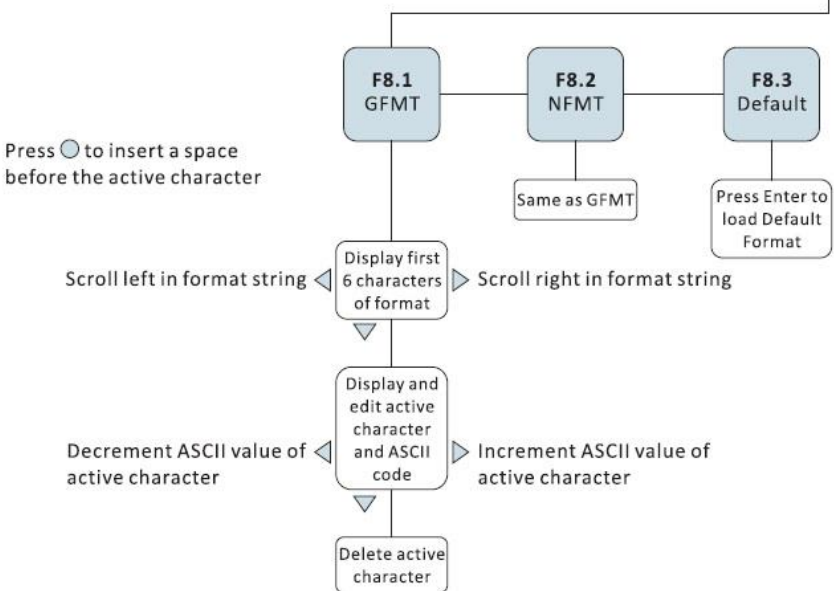

Fig. 13.2.1 Print Format Input Flow Diagram
- (1) Move the jumper of SW2 to CFG setting to switch the indicator to Configurations mode (display will show "F1").
- (2) Press  multiple times until it reach to "F8" (see Fig. 13.2.1). Press  to Print Format Menu and will show "F 8.1".
- (3) When display shows "F8.1", press  again and display shall show the default or programmed printing format string of GFMT. When format string is not showing, we need to load the defaults using the F8.3 menu. Go to F8.3 then press the tare key. It will display "SET ?". Press the tare key again to confirm to load the default formats.
- (4) Use ,  to move the cursor in highlighting the character of the printing format string. Once character is highlighted it will be flashing.
- (5) To insert character between two characters, highlight the character at the right then press  to add a space. Once a space is added at the left, press  to insert a character value.
- (6) To edit a character in the string, highlight the character by moving the cursor into it then press . Use  or  to select the decimal equivalent for the ASCII character. Refer to ASCII Codes Table at Appendices section 15.5. Once the decimal equivalent is selected for the character, press  to return to the string.
- (7) To delete a character in the string, highlight the character by moving the cursor into it then press . It will show the decimal equivalent value. Press the  again and it will return to the string and the character selected is deleted.
- (8) Once the printing format string in F8.1 (GFMT) is completed, press  to go to F8.2 (NFMT) then press  to open the NFMT printing format string. Follow the instructions above starting from step # 4 to step # 7 in inputting the commands for the printing format.
- (9) Here is a sample printing format string: <G>Gross<nL><E>. Refer to Table 13.1 Print Format Commands for the detailed guides of print commands. Remember always to place the <E> command of your string otherwise it will not get operational.
- (10) Once the programming is done, move back the jumper of SW2 to DFT to exit from Configurations mode then press the print key to print the programmed data.
- (1) Move the jumper of SW2 to CFG setting to switch the indicator to Configurations mode (display will show “F1”).
- (2) Press  multiple times until display shows “F8” (see Fig. 13.2.1). Press  to go to Print output menu and display will show “F8.1”.
- (3) When display shows “F8.1”, press  twice until display shows “F8.3”.
- (4) Press  and display will show “Set?”. There are 2 options:
- (5) Move back the jumper of SW2 to DFT to exit from Configurations mode
- (2) Press  multiple times until display shows “F7” (see Fig. 13.2.1). Press  to go to F7.1 Menu.